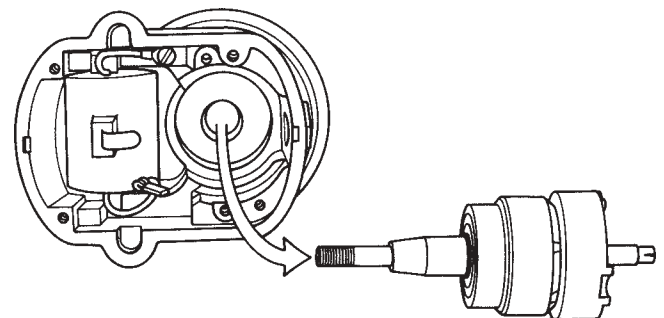

Figure 6.8
- Press against the drive end of the rotor shaft and withdraw the rotor and bearing cap assembly from the drive frame. (See Figure 6.8.)